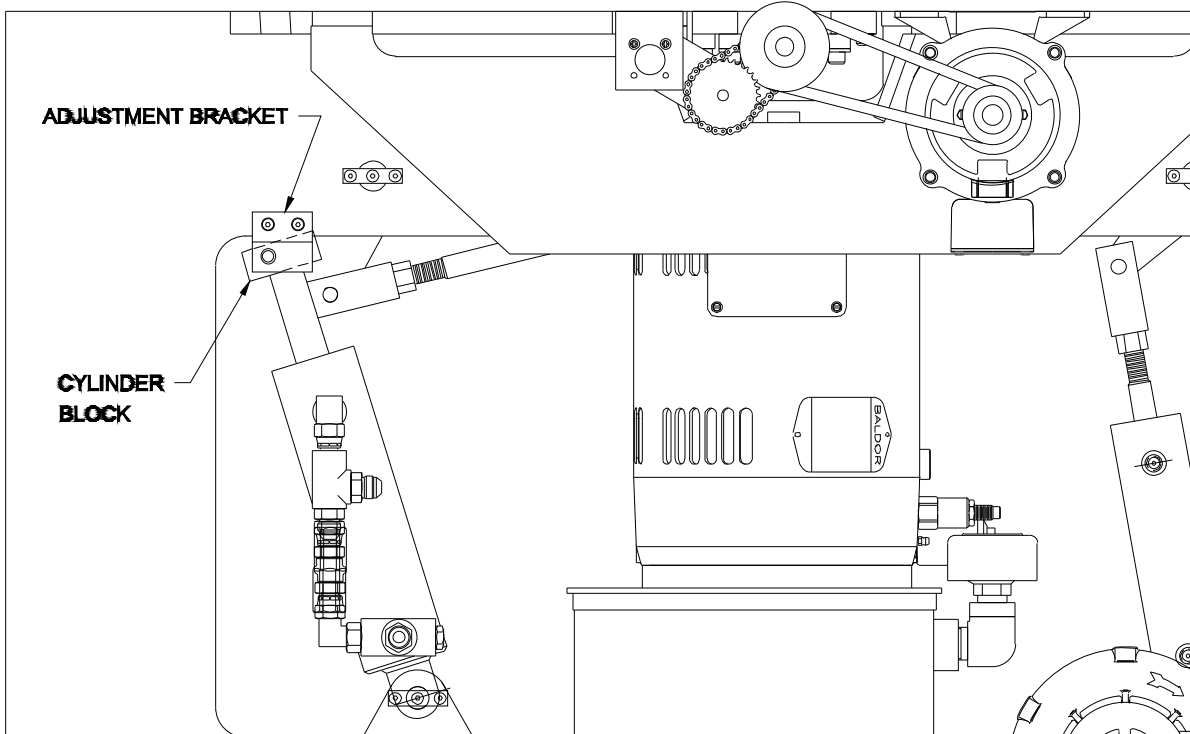

Fig 21
1. Turn the “MAIN POWER SELECTOR” switch to “ON” and allow the MPS to reset. Turn the “MAIN POWER SELECTOR” switch to “BLADE ADJUST”. Press the two (2) black cut buttons to start the main motor.
2. Press and hold the two (2) black cut buttons until the blade beam is at the bottom.
4. The sensor is located on the lower right side of the frame inside of the back plate. Fig. 21.